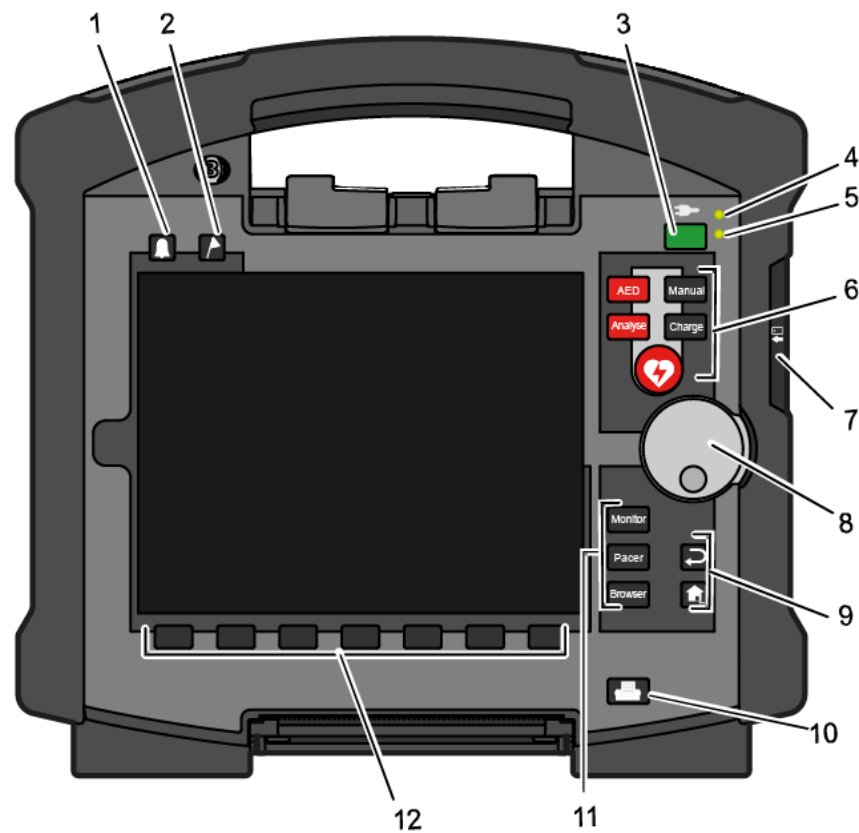

Fig. 4-1 Monitoring unit, operating elements and LEDs
**Operating mode keys** The different operating modes are selected by pressing the following keys (Fig. 4-1, item 11):
The function keys **Back** and **Home** (Fig. 4-1, item 9) are used to control the device:
**Print key** Pressing the **Print** key (Fig. 4-1, item 10) starts the real-time printout of the curves. Pressing the **Print** key again interrupts every running print job (log, D-ECG, real-time printing).
The softkeys (Fig. 4-1, item 12) are assigned different functions, depending on the current operating mode or selected dialogue. The current function is displayed in the softkey line.
**Alarm key** By pressing the **Alarm** key (Fig. 4-1, item 1), the alarm history of all physiological and technical alarms is called up. All the alarms which have occurred appear in this list with their time of occurrence.
**Event key** If the **Event** key (Fig. 4-1, item 2) is pressed briefly, a time stamp is saved which marks the current ECG data and parameter values. Based on this marking, this data can subsequently be located in the data memory, viewed and assessed. The message **Event recorded** appears in the message line.